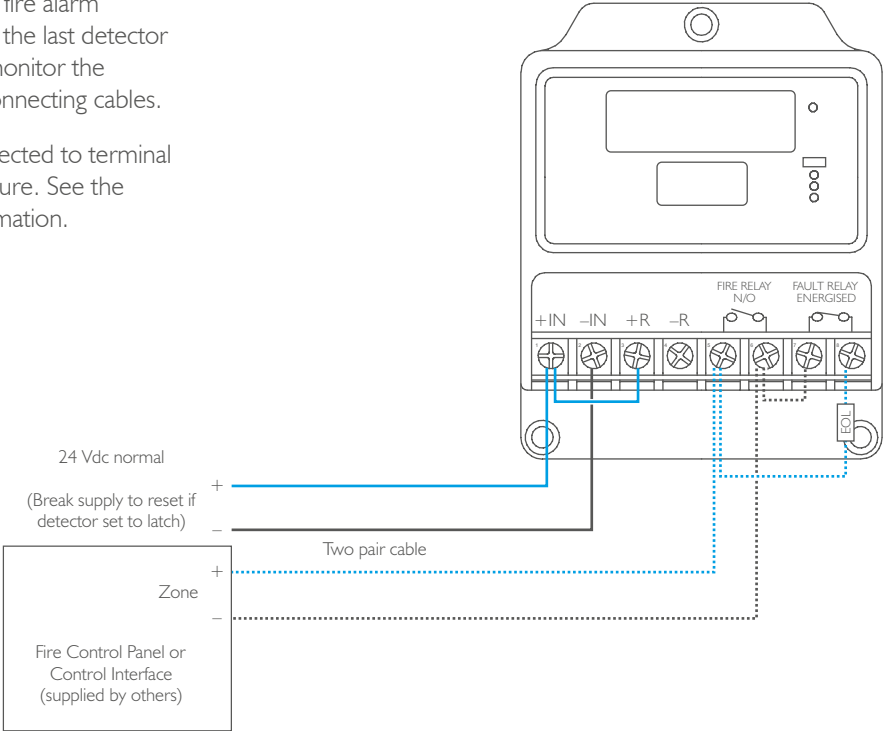

Figure 13. Four-wire connection diagram – single detector
- 2) Volt-free contacts from two internal relays RL1 (Fire) and RL2 (Fault or Pre-alarm). Using the relay contacts connected in a four-wire configuration, the detector status can be signaled back to control equipment – see Figure 13.